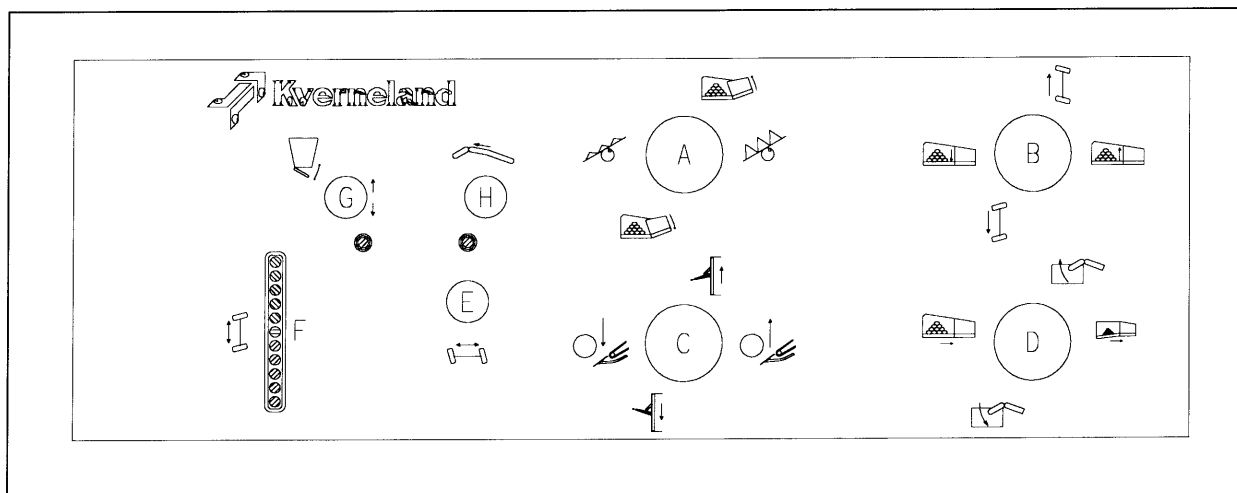

Fig. 24-1
- Control panel tractor (Fig. 24-1)
(Fig. 24-1). Light in the diodes indicates power supply. The panel is prepared for operating extra functions, even if the machine is not equipped with this functions.